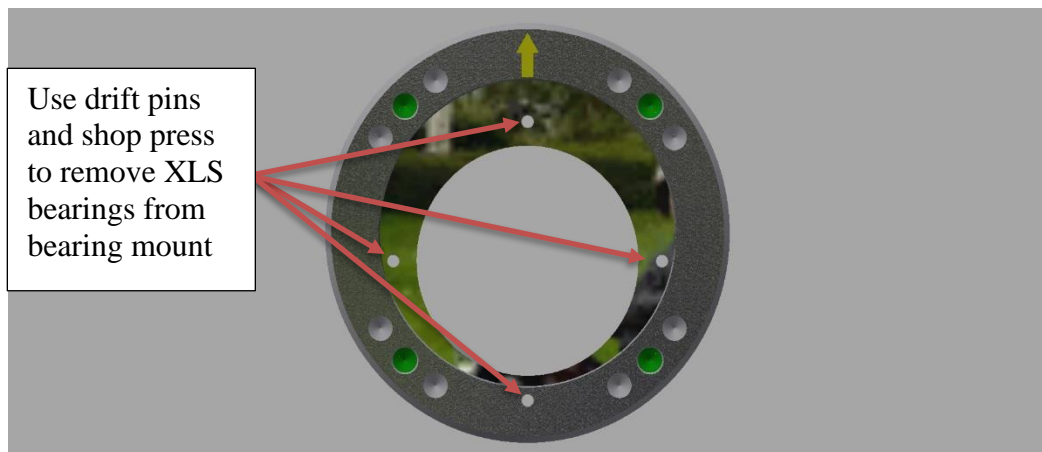

Figure 27
7. Separate the XLS bearing from the offset rotor bearing mount by utilizing the four (4) holes shown in **Figure 27**. Insert drift pins into holes and press bearing off of bearing mount.